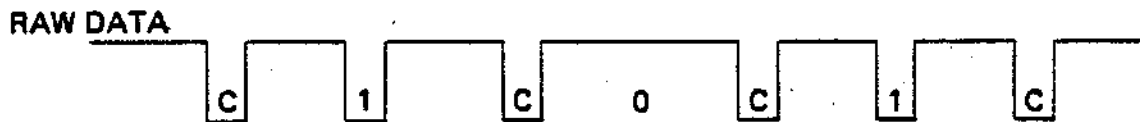

FIGURE 6, Raw Data
In the IMSAI Floppy Disk System, both clocks and data are recorded on the disk utilizing a double frequency (FM) recording format. This format utilizes clocks to define bit cell times. The presence of a flux reversal between clocks is defined as a "one" bit. The absence of a flux reversal between clocks is defined as a "zero" bit. Figure 6 is an example of FM encoded data written on the disk.